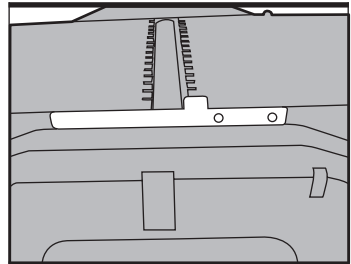

Fig 3
- 1) Locate the 2 x guide fence mounting holes situated on the side of the planning out-feed table (13). Then place the safety guard plate. (Fig 3)
- 2) Line up the 2 x mounting holes on the guide fence (8) with those situated on the out-feed table (13).